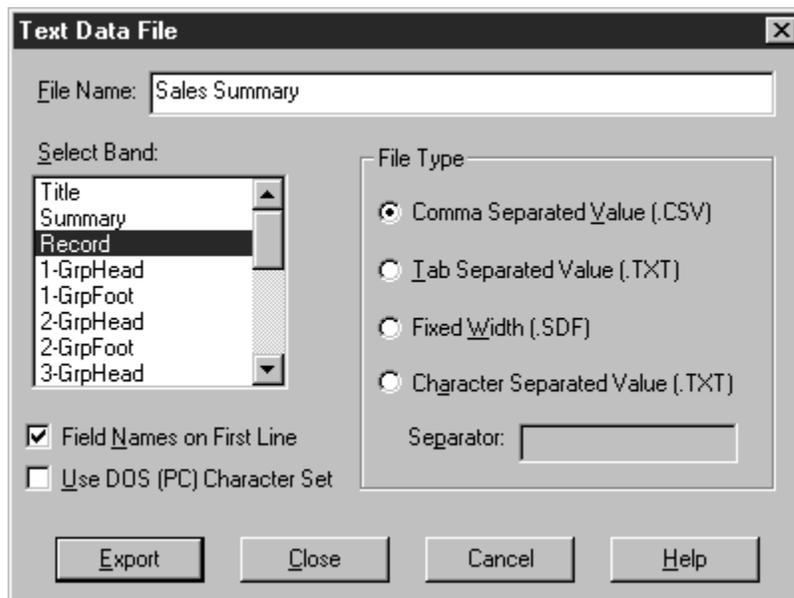

Figure 17.10 Text Data File Export Dialog
2. On the Text Data File dialog (see Figure 17.10), enter a name for the export file in the File Name box (default extension is determined by the File Type you select), optionally including a path.